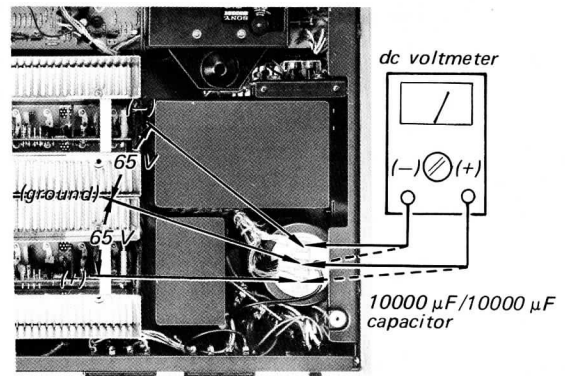

Fig. 2-4.
3. Connect the dc voltmeter across terminal pins of capacitor as shown in Fig. 2-4.
4. With the 1 kHz signal fed, adjust RT331 (See Fig. 2-5.) for 65 V reading (See Fig. 2-4.) on the meter, respectively.